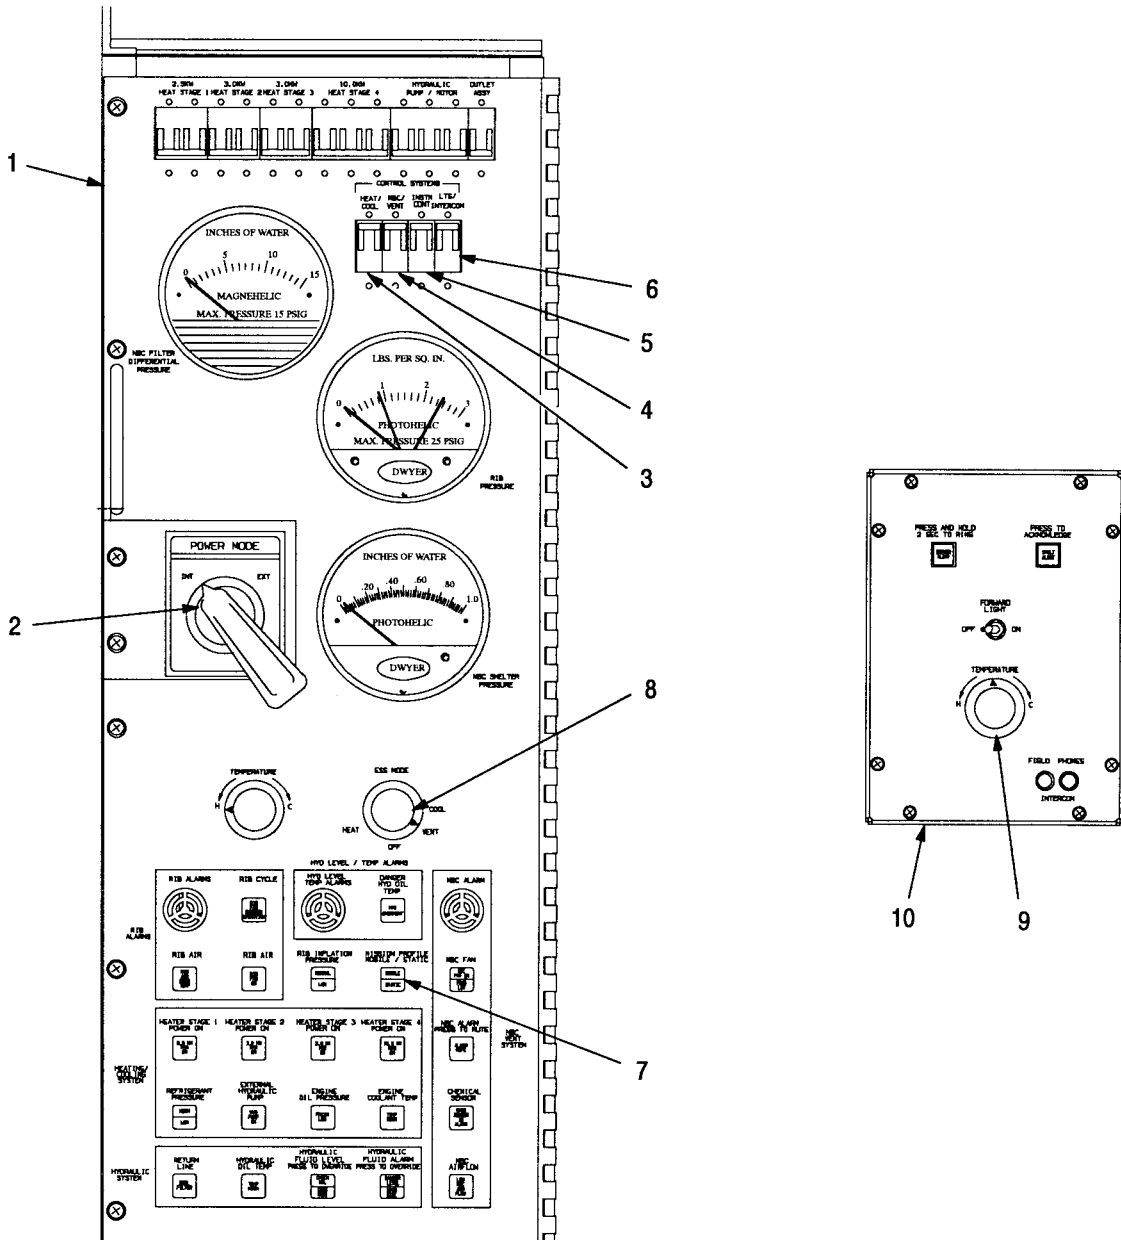

Figure 2-34. Rear Control Panel Settings in Mobile Mode - NBC Conditions
- (1) Ensure access door and emergency exit hatch are closed and latched.
- (2) On rear control panel (1, figure 2-34), set POWER MODE switch (2) to INT and the following circuit breakers on rear control panel to ON:
- HEAT/COOL (3)
- NBC/VENT (4)
- INSTM CONT (5)
- LTG/INTERCOM (6).